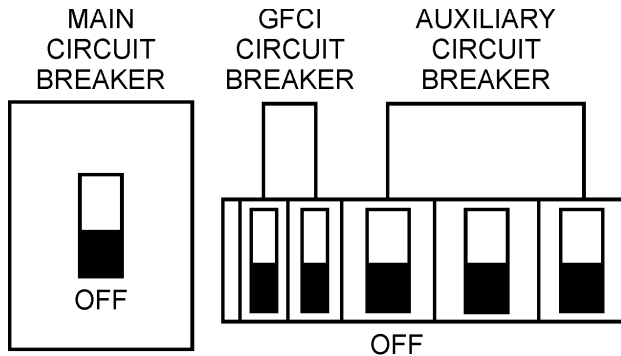
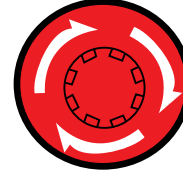

Figure 41. Main, Aux. and GFCI Circuit Breakers (OFF)
Figure 43. Emergency Stop Button
1. Place both the **MAIN, GFCI and LOAD** circuit breakers as shown in Figure 41 to the **OFF** position.
1. If equipped (option), push the **Emergency Stop Pushbutton Switch** (Figure 43).
2. If generator is not equipped with an emergency stop pushbutton switch (Figure 43), place the main circuit breaker (Figure 41) in the **OFF** position